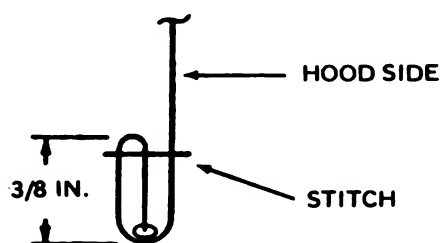

Figure 4-4. Raw Edge Enclosed
- d. Turn under raw edge $\frac{3}{8}$ inch and stitch on folded edge with raw edge enclosed in stitching. (See figure 4-4, side view.)